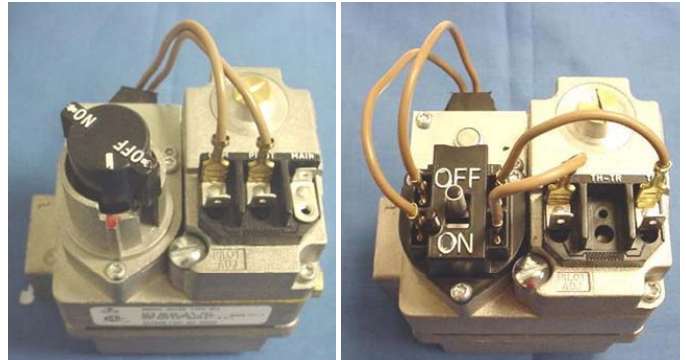

Figure 30: Typical Gas Valve
3. Turn gas valve knob or switch to "ON" position (See Figure 30).
4. Turn gas valve clockwise to "OFF" position (See Figure 30).